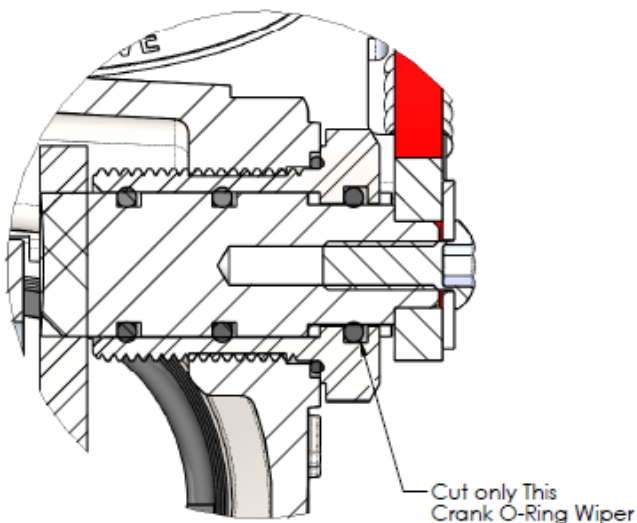

Figure 2
1. Apply Lubriplate to crank pin of Crank Assembly and install Sleeve and E-Clip. (Figure 2)
2. Apply Lubriplate to O-ring glands on crank shaft of Crank Assembly and install Crank O-Rings and Nylon Washer. (Figure 2)
3. Apply Lubriplate to entire surface of crank shaft of Crank Assembly. (Figure 2)